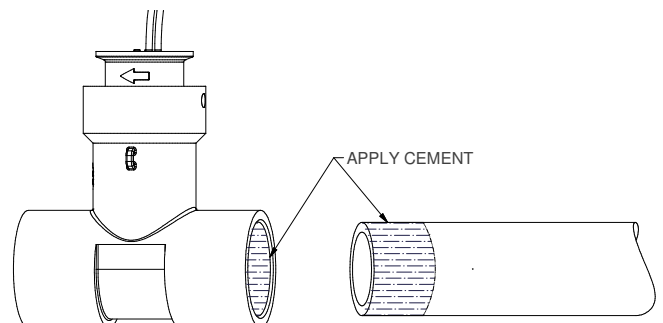

Figure 4
3. Apply PVC cement to pipe ends and Tee sockets and quickly assemble the parts while the cement is fluid. Follow the cement manufacturer's instructions (See Figure 4).